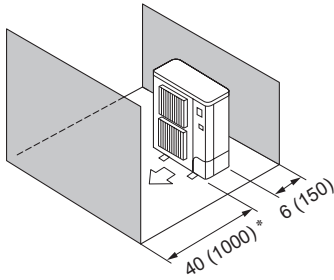

Fig. 2-10
- ⑤ Obstacles at front and rear (Fig. 2-10)